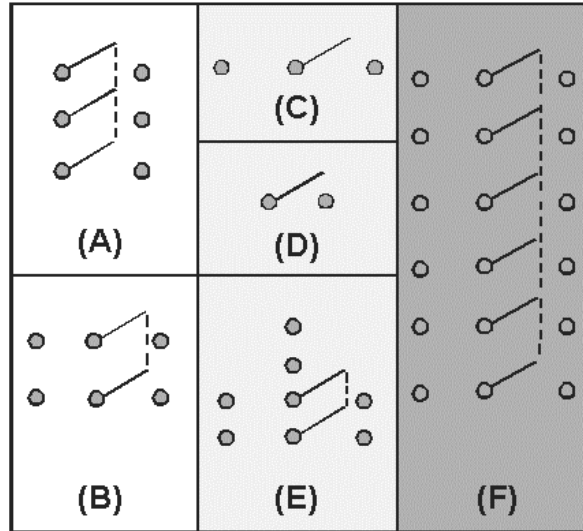

Figure 11: Schematic symbols of switches.
5. Label the schematic symbols shown in Figure 11 as to number of poles and number of throws.